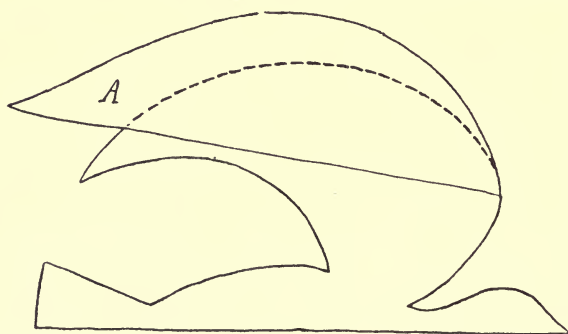

FIG. 477
(5) The wings can be made larger if necessary by the addition of tissue-paper wings gummed on as A in Fig. 477.